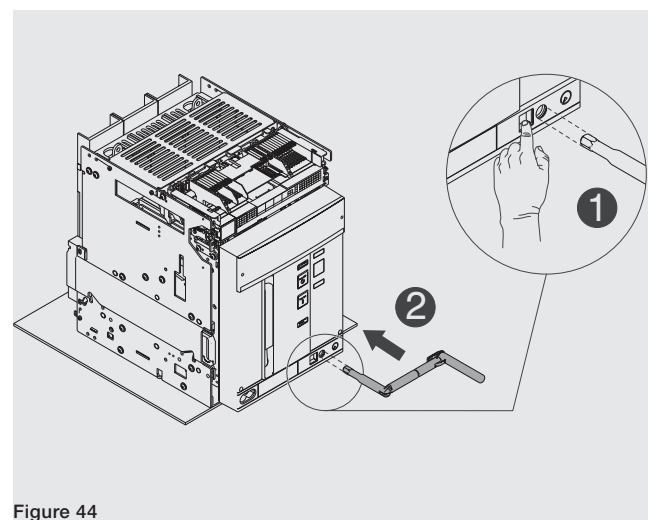

Figure 44
8. Press the lock push-button and insert the crank in the moving part. In this phase the moving part is still in **DISCONNECT** position. See Figure 44.